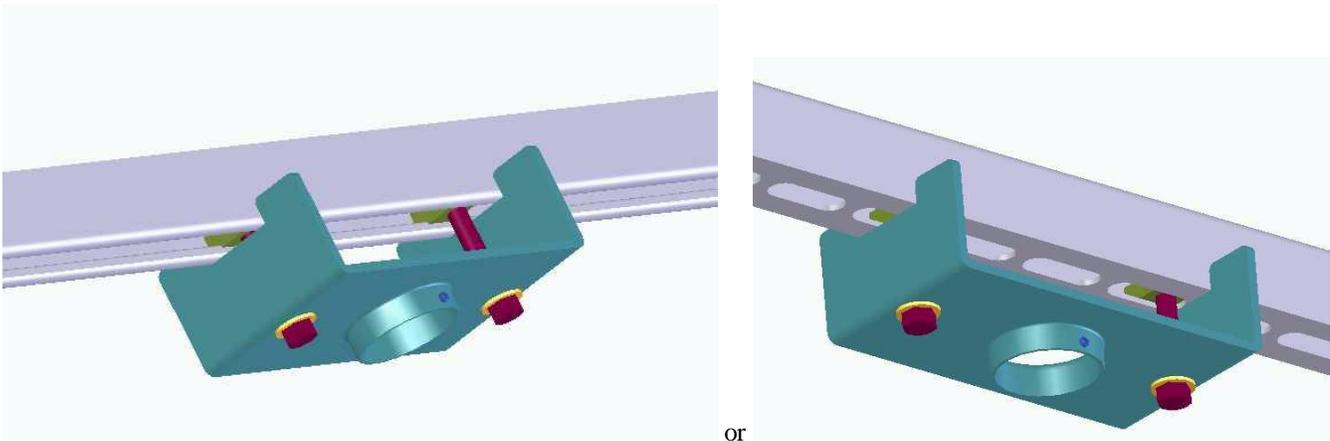

Figure 1. CMA-372
1. Insert two Unistrut nuts in Unistrut (see Figure 1).